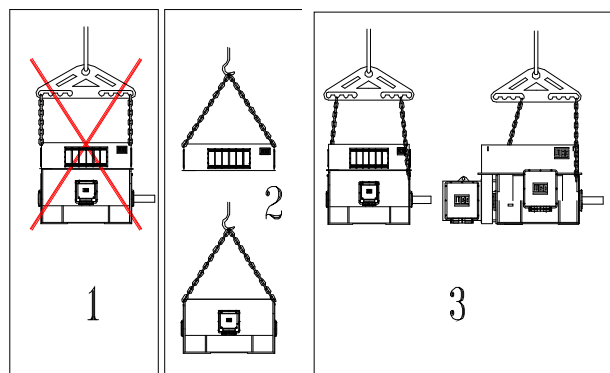

Figure 3.1: Motor handling
- The motor must be handled as indicated in positions 2 and 3 of Figure 3.1;
- If the center of gravity is not perfectly in the center of the lifting lugs, use one of the methods shown in item 3 of Figure 3.1;